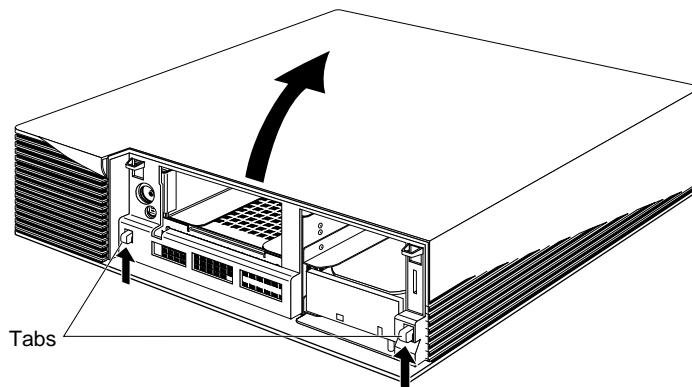

Figure 1-5 Removing the Top Cover of the Indigo² Chassis
- Pull up on the cover and rotate it back and away from the chassis, as shown in Figure 1-5.